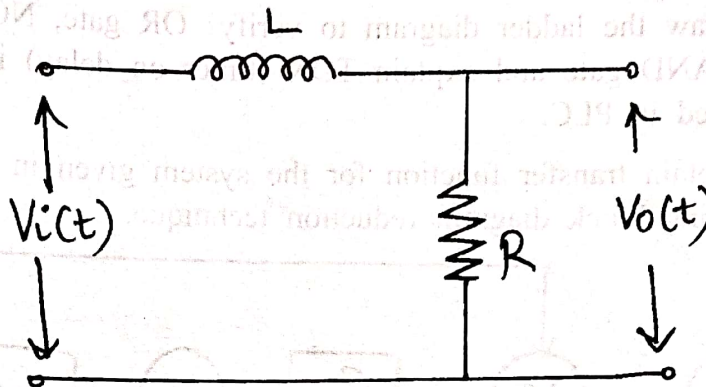

Figure No. 01.
- d) Derive transfer function for the system given in Figure No. 01.